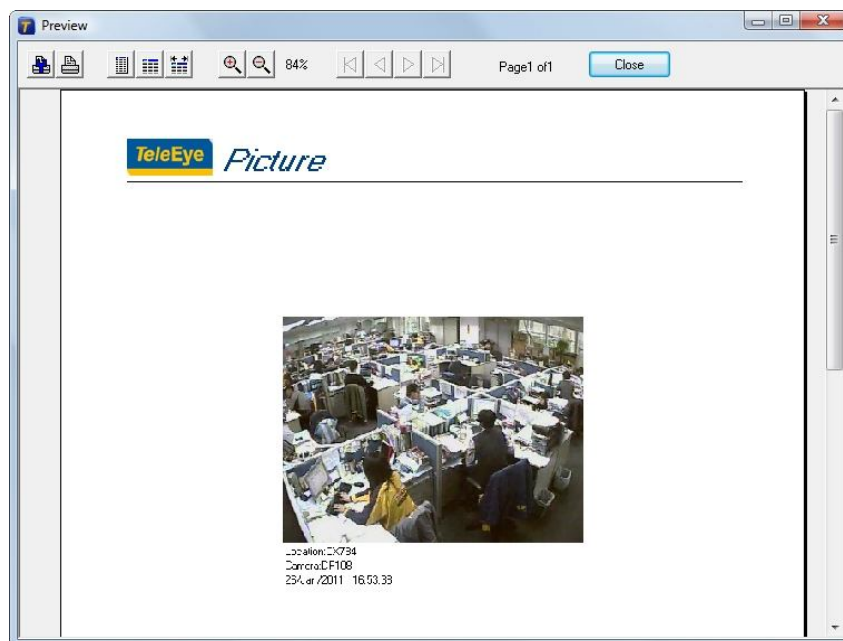

Fig 11.2b
Step 1 : In {Picture Viewer} panel, click [Preview]  icon to pop up {Preview} panel as shown as Fig 11.2b.